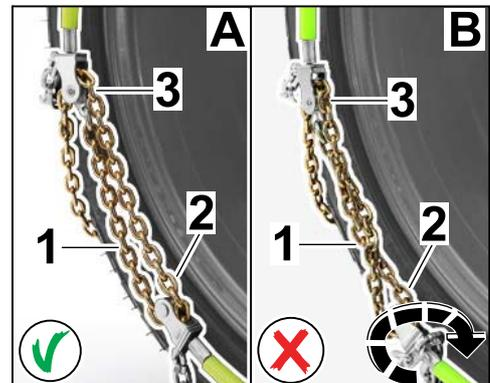

Figure 7
2.2.2 Check that the tensioning chain at the tensioning point and deflection roller (end of spring steel clip on inside of wheel) (\Rightarrow *Figure 7-A-*) is running parallel and is **NOT** twisted (\Rightarrow *Figure 7-B-*).
Turn deflection roller for spring steel clip if necessary (\Rightarrow *Figure 7 -arrow-*).